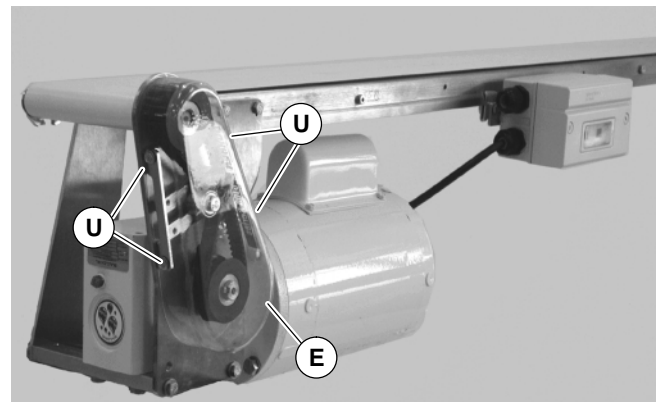

Figure 24
- Remove four (4) screws (U of Figure 24) and remove cover (E).